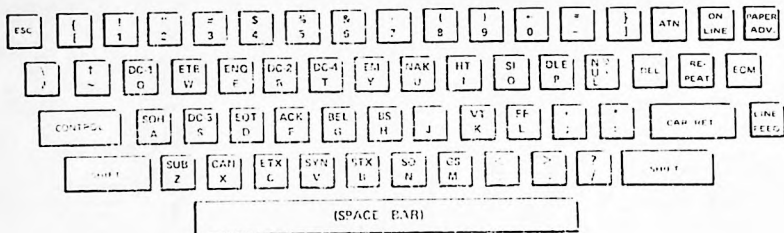

Figure 3. Keyboard Arrangement
2.2 Keyboard. The keyboard, consisting of 60 keys (Figure 3), has three modes of operation:
The specific codes generated by the keyboard are shown in Figure 3.